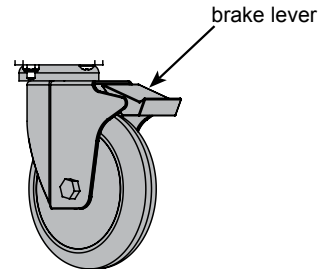

Figure 9
1. To lock the wheel rotation, press the brake lever. **Figure 9.**